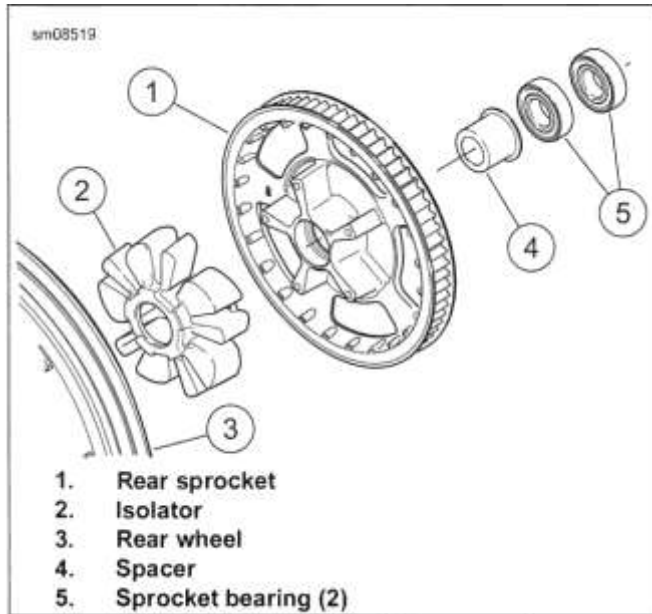
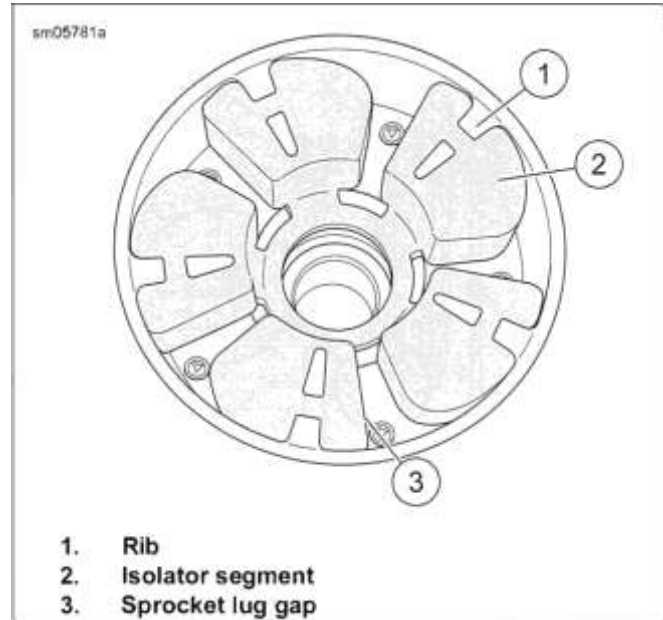
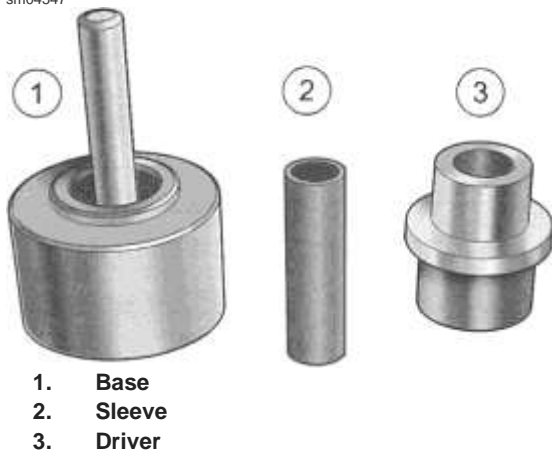

Figure 3-23. Rear Wheel Compensator
Figure 3-24. Install Isolator in Wheel
Figure 3-25. Rear Wheel Compensator Bearing Remover/Installer (HD-48921)
1. See Figure 3-23. Remove rear wheel compensator.
- a. Pull sprocket (1) from rear wheel (3).
- b. Remove isolator (2) from wheel. Discard isolator.
- a. See Figure 3-24. Lubricate each segment (2) of **new** isolator with equal mix of isopropyl alcohol and water.
- b. Push **new** isolator into wheel. Verify that each isolator segment is completely installed and is flush with each rib (1).
- c. See Figure 3-23. Push sprocket (1) onto wheel (3).
1. See Figure 3-23. Remove sprocket bearings (5).
- a. See Figure 3-25. Support the base (1) of REAR WHEEL COMPENSATOR SPROCKET BEARING REMOVER/INSTALLER (PART NUMBER: HD-48921) on a suitable press with the large OD facing up and the long pin facing down.
- b. Slide sleeve (2) over the short pin.
- d. Slide the small OD of driver (3) over the sleeve until it contacts the spacer.
3. See Figure 3-23. Discard bearings (5).
1. See Figure 3-23. Install spacer (4) and **new** sprocket bearings (5).
- f. Center the large OD of driver (3) onto the bearing. Verify that the driver contacts complete radius of the outer bearing race.